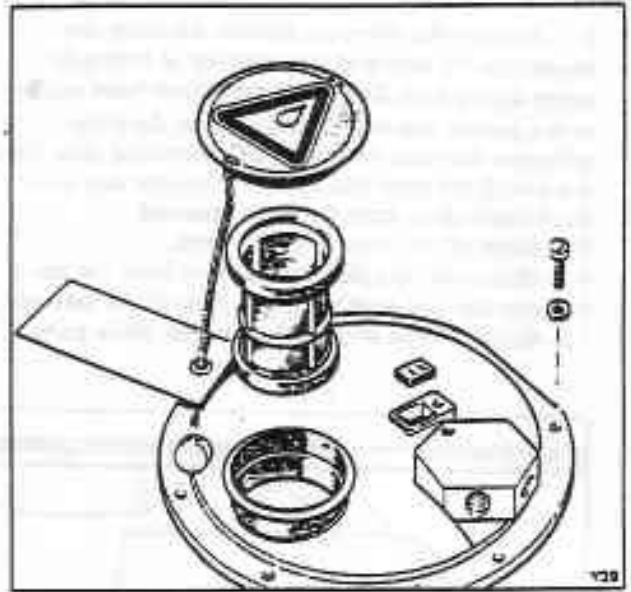

Fig. G5-5 Hydraulic system mineral oil filler neck, filter, and label
3. Remove and discard the green filler caps, plastic warning labels, and fluid filters (see fig. G5-5).